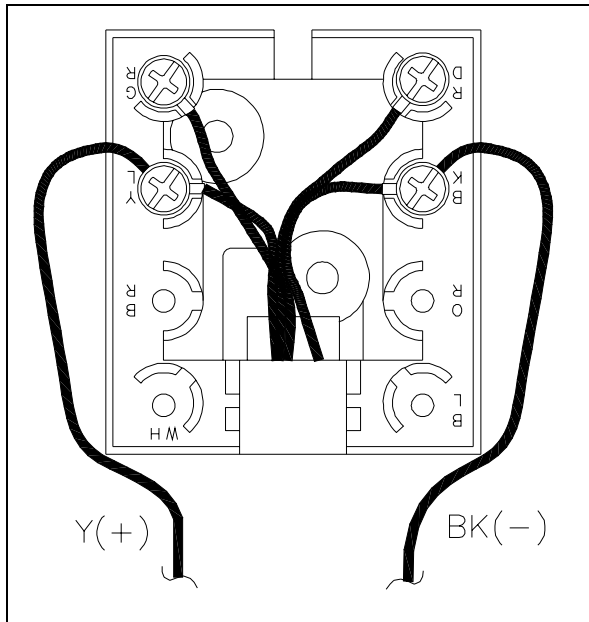
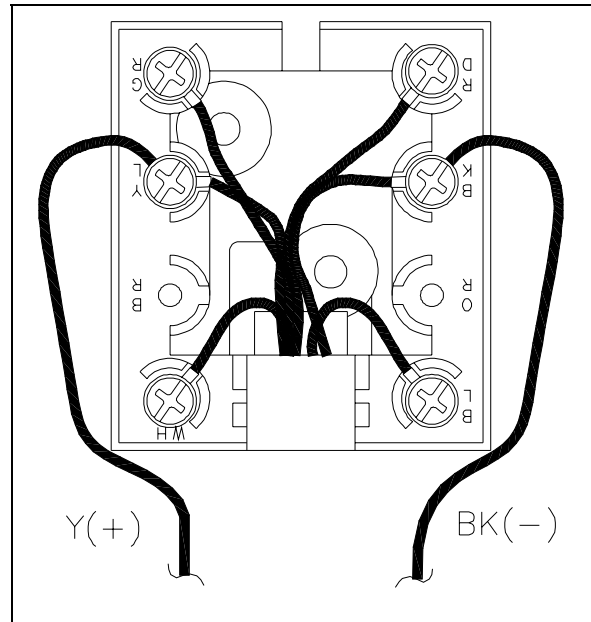

Figure 2. Wiring for Model 295F
Figure 3. Wiring to Model 295W
- Tap out the wire guides in the side of the modular wall jack. Connect the black (-) wire and the yellow (+) wire as noted in Figure 2 for Model 295F and Figure 3 for Model 295W.